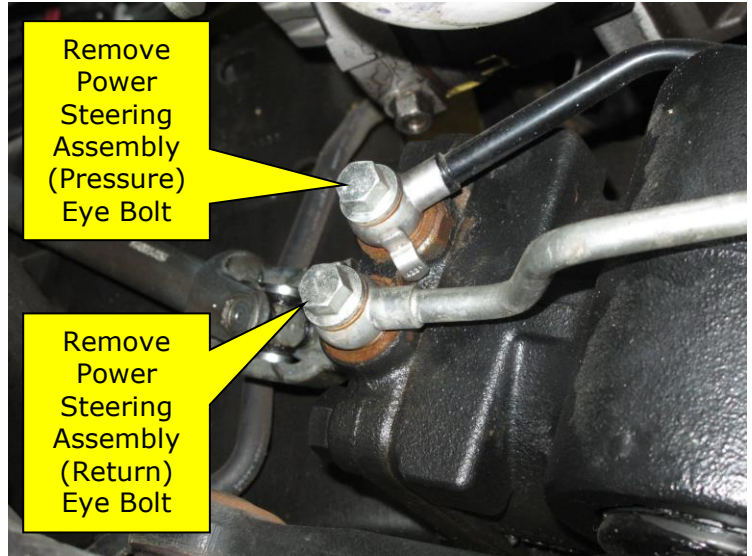

Figure 7
6. Remove Power Steering Hose Assembly (**Pressure & Return**) eye bolts (Figure 7).